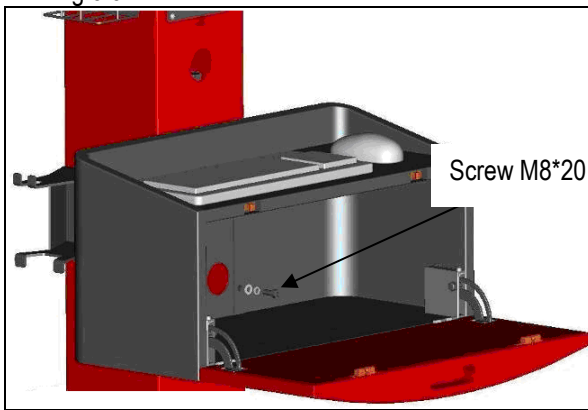

Fig 5.3
- Install the printer box on the post as shown in Fig.5.3.